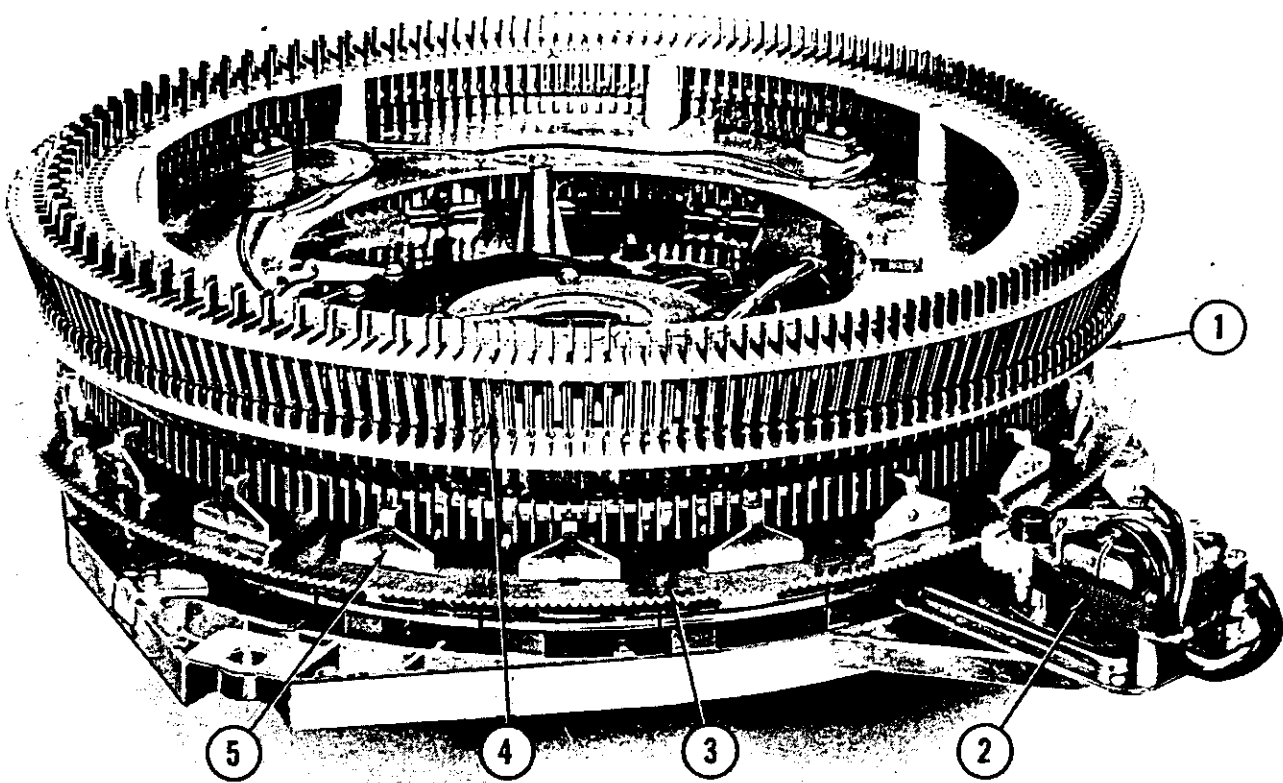
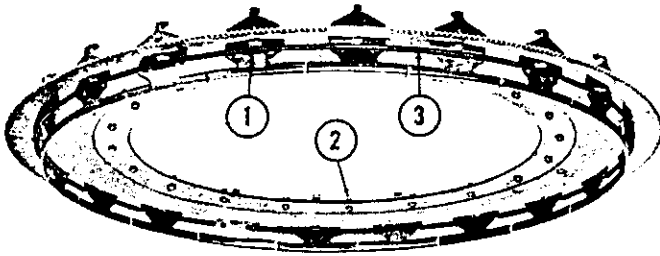

Fig. 27. ELECTRIC SELECTOR ASSEMBLY 68127
Fig. 29. ROTATING PLATE AND ROCKER ASSEMBLY 68245
d. The electric selector assembly (Fig. 27) consists of a circular drum containing 200 latch pins (Item 1) with their accompanying 200 retracting springs (Item 4). These latch pins are actuated by 20 rocker arms (Item 5) mounted on a rotating plate (Item 3) which is rotated about the latch pins by the selector
(2) The rotating plate and rocker assembly (Fig. 29) serves to release the selected latch pin with one of its 20 rocker arm and bracket assemblies (Item 1). The entire rotating plate and rocker assembly rotates from power supplied by the selector drive motor indicated in Figure 27. The selector drive motor is a 24V A.C. reversible, capacitor type motor, mounted to a speed reducing gear box. The output drive gear which engages the rotating plate and rocker assembly is a moulded nylon gear. The 20 stop pins (Item 2) mounted in the rotating plate are provided for proper indexing of the 20 rocker arms. The long spring (Item 3) surrounding the 20 rockers keeps the rockers in a retracted position to permit free searching action of the rotating plate and rocker assembly.
solenoid plunger may engage the long arm of any one of the rocker arm and bracket assemblies, indicated in Item 1 of Fig. 29, in any one of 10 latch pin positions.
rotating plate and rocker assembly (Fig. 29) in any one of the 10 number positions selected. The entire assembly may pivot slightly on its mount at the center of the selector casting. Its range is governed by the two stop screws indicated at Item 5 and is provided to permit indexing, switch operation, and retracting action under spring loading.